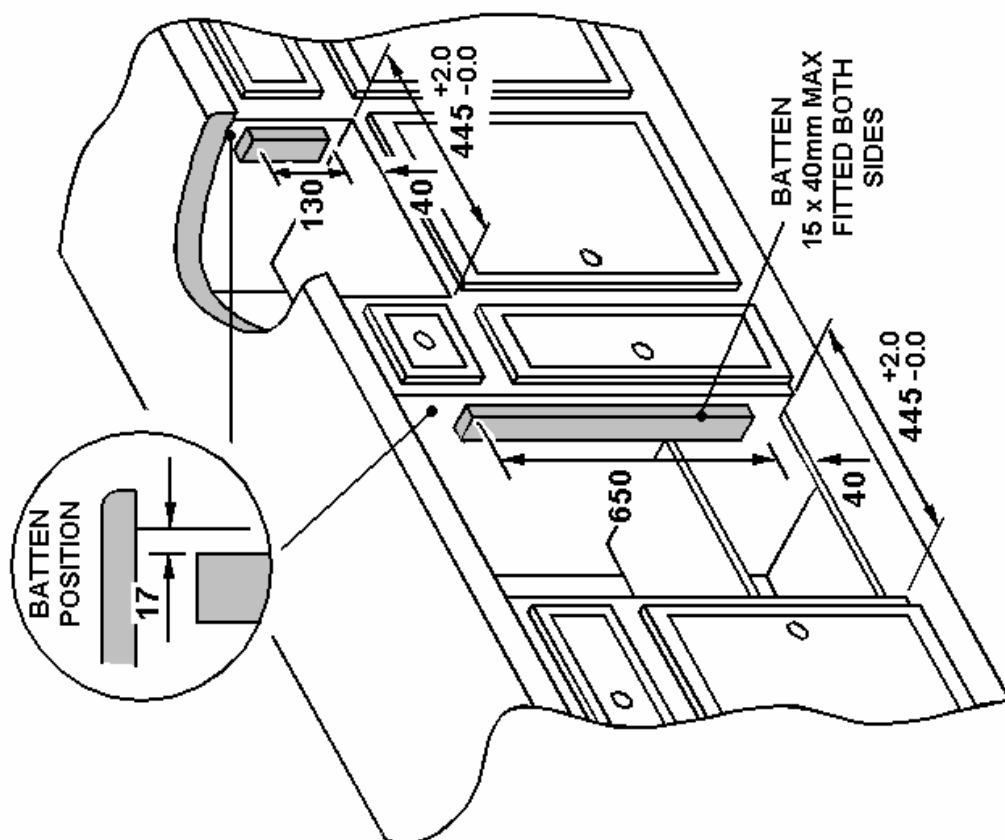

Fig. 2
2. To light: Open door, push in the control knob and turn to full rate – see Fig 2. Hold a lighted match or taper to the burner and push the control knob in and hold. The burner should ignite and the control knob should be held in for 10 -15 seconds before release. If the burner goes out, repeat procedure holding control knob for slightly longer.